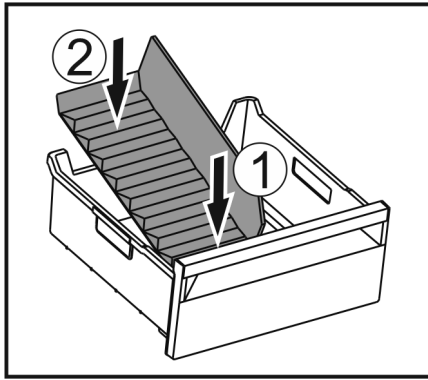

Fig. 165
- Insert the front part of the ice compartment divider. Fig. 165 (1)
- Lower the rear part of the ice compartment divider to the drawer bottom. Fig. 165 (2)